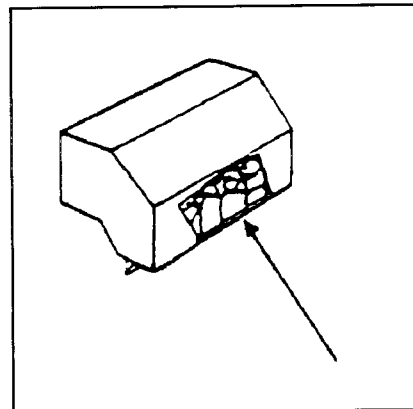

Figure 2-12. Remove the Chains
- i. Untape the bag attached to the sound shroud and remove the chains (see Figure 2-12).